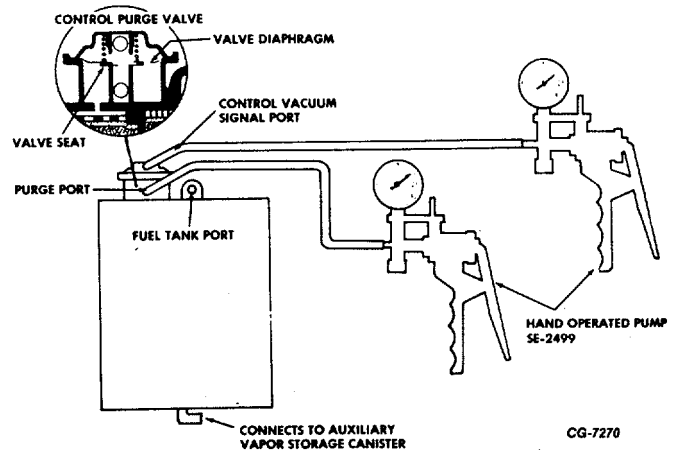

Fig. 17 Canister Purge Control Valve Diaphragm and Valve Seat Test
3. Test purge control valve diaphragm and valve seat by applying vacuum with hand operated vacuum pump (SE-2499) simultaneously to both vacuum signal port and purge port (see Fig. 17). If vacuum of either pump drops rapidly the valve is faulty and the canister must be replaced.